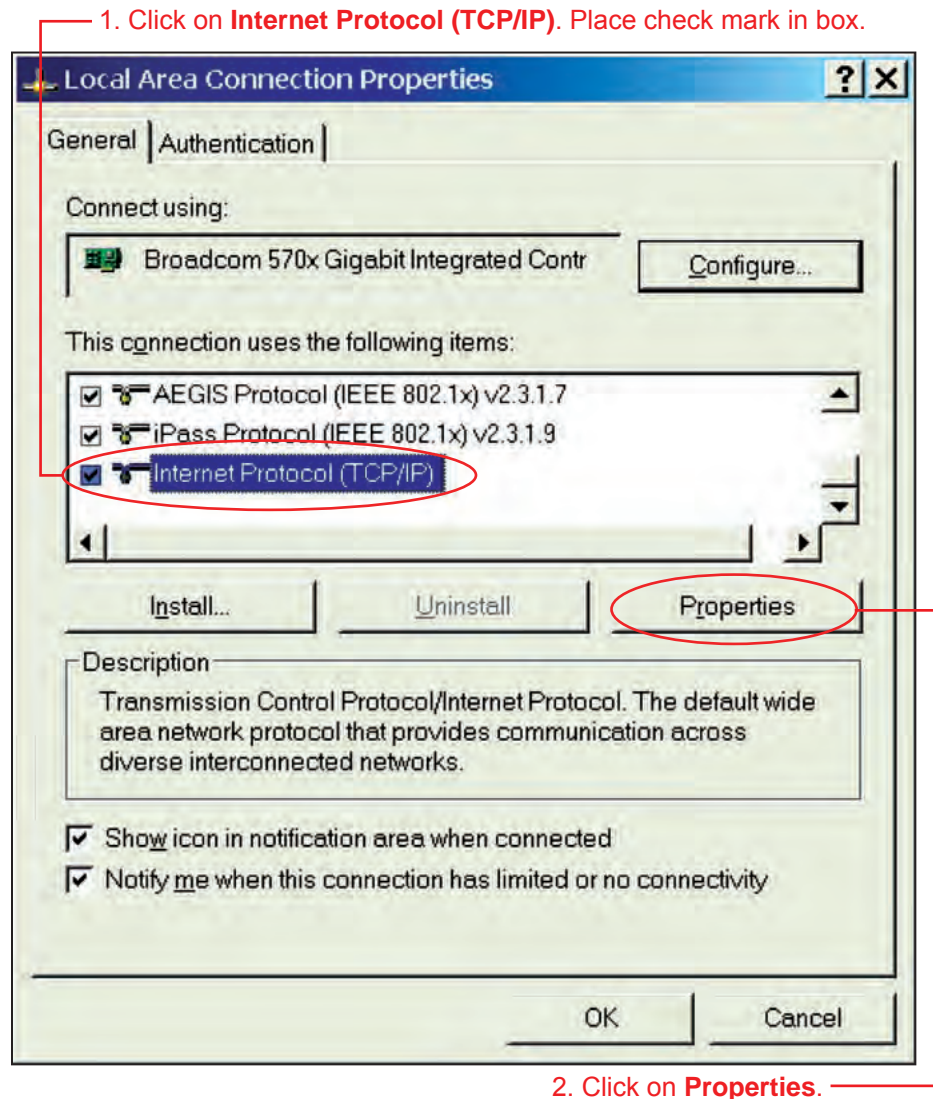

Figure 4-3. Selecting Internet Protocol Properties.
4. Click on **Internet Protocol (TCP/IP)** and make sure the box next to it is checked (Figure 4-3).
5. Click on **Properties** (Figure 4-3).